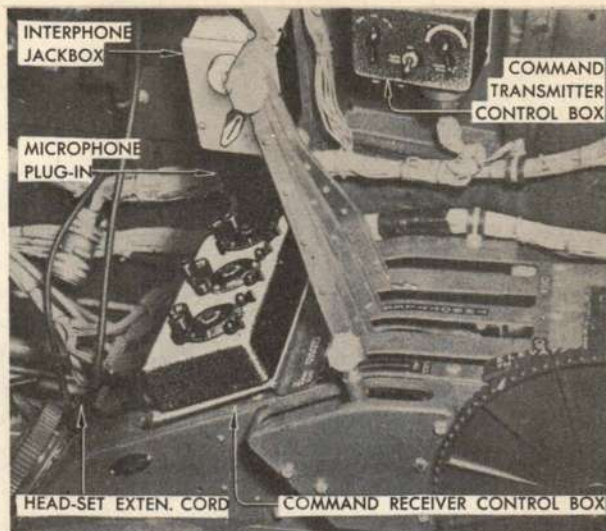

Figure 82 — Pilot's Radio Controls
3. PLUG HEAD SET into head-set disconnecter cord jack. (See Figure 82.) (This cord extends from filter switch box.) PLUG THE THROAT MICROPHONE into microphone disconnecter cord jack. (See Figure 82.) (Cord must be plugged into the interphone jack-box "MIC" jack as in figure 82.)
4. Set the interphone jack-box (Figure 82) selector switch on the applicable position and turn the "INCREASE OUTPUT" knob fully clockwise.
2. Hold the interphone jack-box selector switch (Figure 82) in "CALL" position, call desired crew member, and release selector switch, allowing it to return to "INTER".
a. Set the three "A-B" switches on the receiver control box (Figure 82) to "A". These switches have no function in this installation on "B" position.
b. Turn "TRANSPower" switch on transmitter control box (Figure 82) "ON".